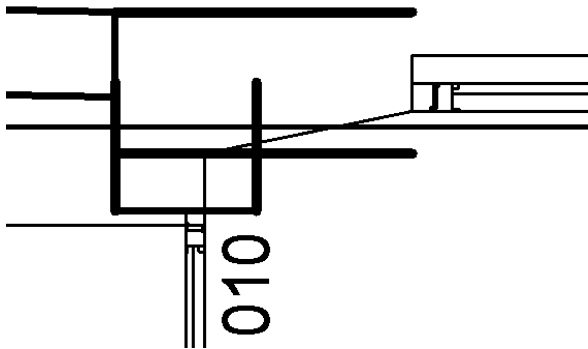

FIGURE 3. Non-native ‘.dwg’ file Linked in Revit - wall corner plan detail with errors
- Before giving the set of drawings to CENERGIE, the architect should check if all necessary elements show up the way they should appear. This needs extra attention when the architect used a non-Autodesk CAD/BIM software solution, because lines and other drawing elements can disappear or look different (see figure 3). A simple method for the architect then, is using an free Autodesk